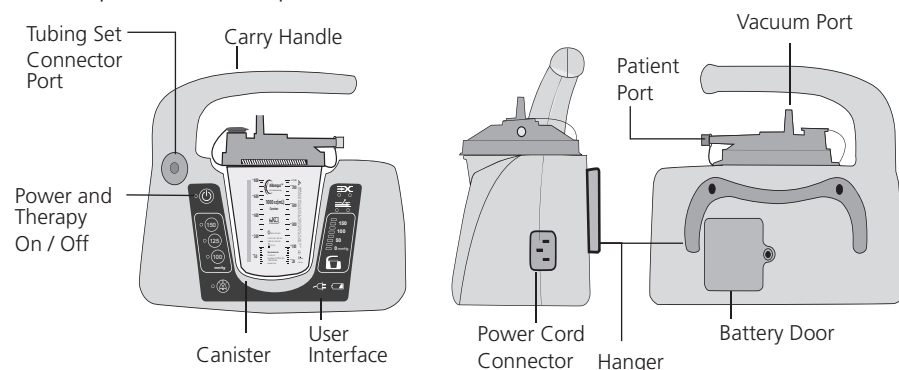

Fig. 1
3. Determine the orientation of the dressing for the specific application. If Visceral Protective Layer will be placed around tubes, drains or the falciform ligament, cut only **between** the foam extensions (see Fig. 1). **Do not cut near or through foam extensions.** Orient the Visceral Protective Layer accordingly before cutting.
2. Plug ABThera™ power cord into ABThera™ (NPT) Unit. See Fig. 1 for power cord connection location.
4. Press and hold the Therapy On / Off button for two seconds to turn therapy unit on and start therapy (Fig. 1). The green light next to the Therapy On / Off button will illuminate.